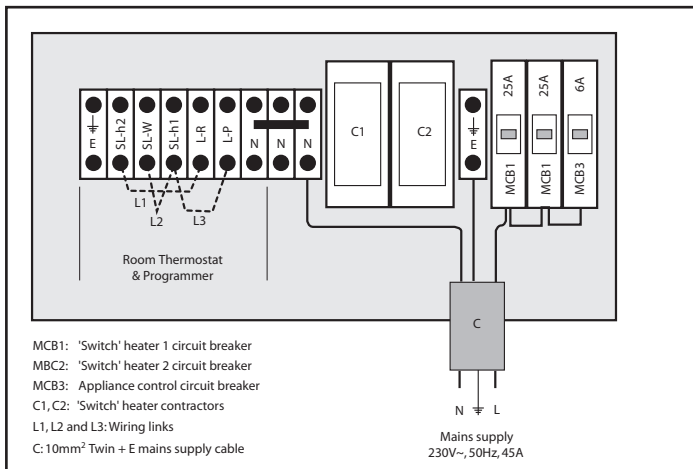

Figure 4.4B Appliance wiring panel with NO clock option
- (a) Remove links L1, L2 and L3 from terminals labelled 'L-P'; 'L-R'; 'SL-W'; 'SL-h1' and 'SL-h2' (see figure 4.4B).